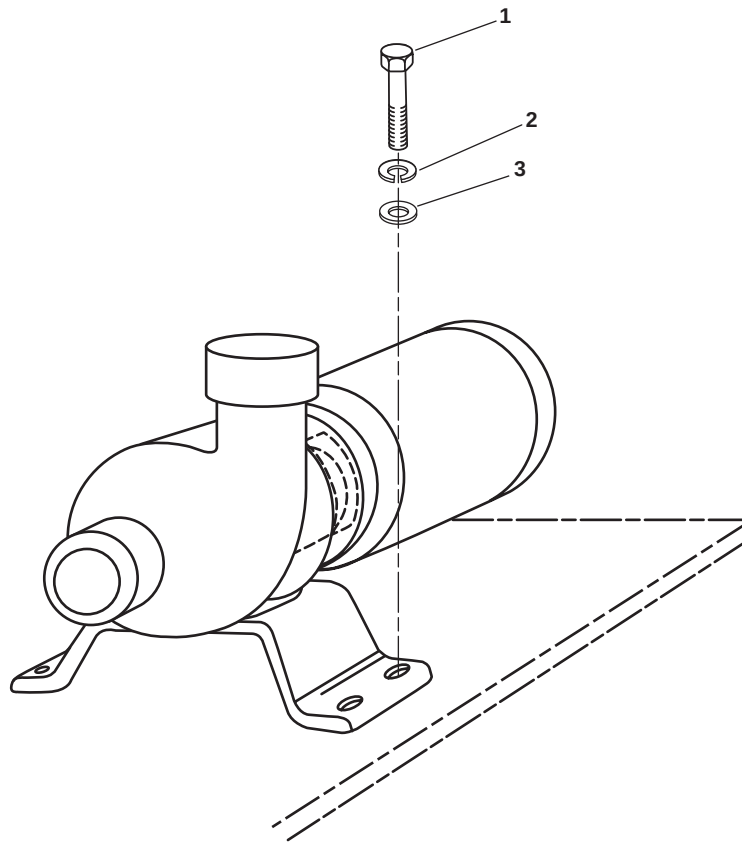

Figure 3. The Reduction Gear Cooling Pump Assembly (Mounting Hardware)
11. Remove bolts (figure 3, item 1), lockwashers (figure 3, item 2), and flat washers (figure 3, item 3). Discard the lockwashers.
4. Position the reduction gear cooling pump on the foundation, install the bolts (figure 3, item 1) with new lockwashers (figure 3, item 2) and flat washers (figure 3, item 3). Do not tighten the bolts at this time.
7. Tighten the bolts (figure 3 item 4) to secure the pump to the foundation.